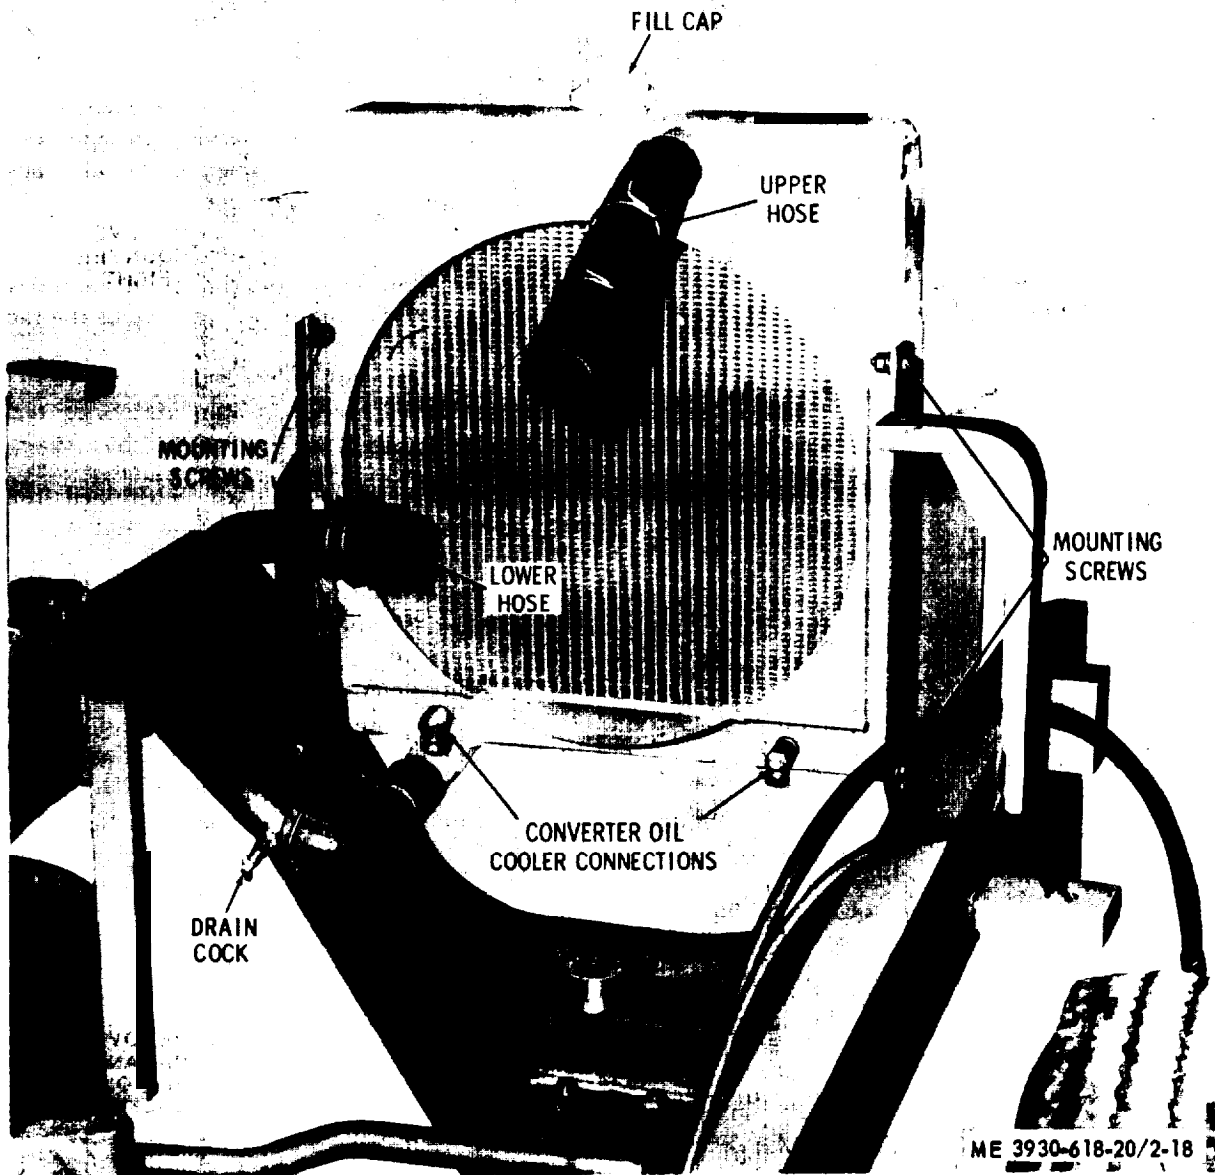

Figure 2-18. Radiator. installed view
**b. Removal.** Refer to figure 2-18 and remove the radiator as follows :
- (1) Remove the side panels and raise the seat.
- (2) Remove the radiator cap, open the drain cocks and drain the cooling system.
- (3) Disconnect upper and lower hoses from the radiator.
(4) Disconnect the converter oil cooler lines at the radiator.
(5) Remove the radiator grille and panel.
(6) Remove the four screws (two on each side of the radiator) that secure the radiator to the mounting bars.
(7) Remove radiator.